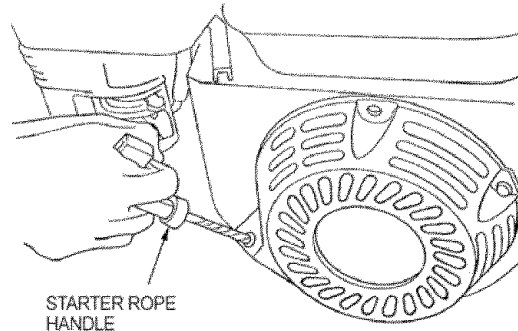

Figure 10- Pulling the recoil starter handle
5. Pull on the recoil starter handle slowly until a slight resistance is felt (see figure 10) then pull quickly to start the engine. Return cord gently into the machine. Never allow the cord to snap back.
6. If engine fails to start, repeat step 5. NOTE: After repeated attempts to start the engine, please consult the troubleshooting guide before attempting again. If problems persist please call **(888) 315-3080 M-F 8-5 CT**.